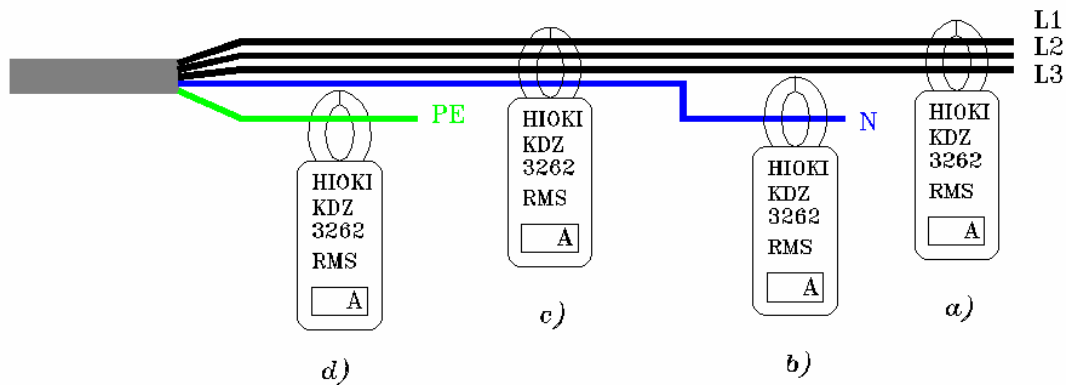

Figure 5 Measuring with a Current Probe
- The differential currents through L1, L2, L3, N, (see Figure 5 – c)
- On the leads to the low-voltage main distribution board (see Figure 5)
- On the leads from the low-voltage main distribution board to the subdistribution boards (see Figure 5)